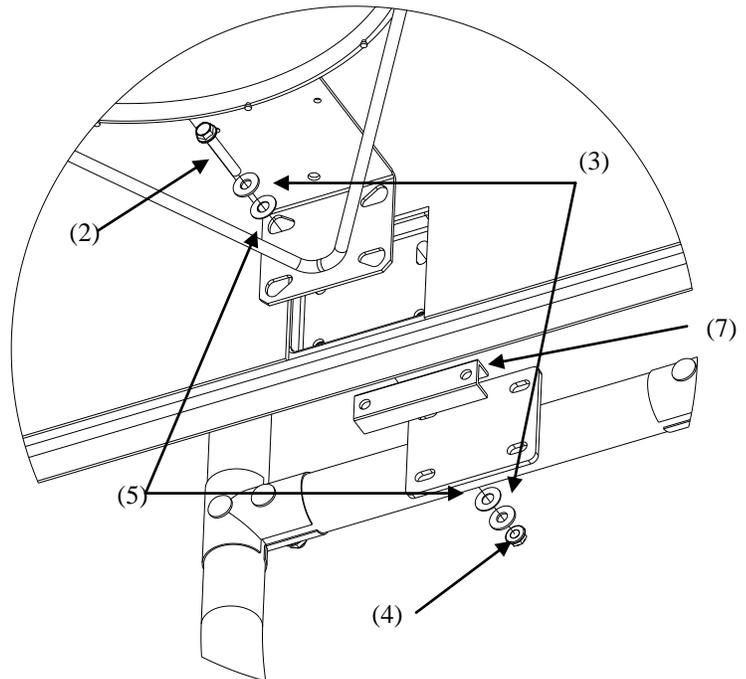

Figure 4
4. Place the insert support (7) between the cross-brace mounting plate (13) and the recess on the back side of the backboard. Be sure to position the insert support in the orientation shown in **Fig. 4** with the holes of the insert support facing the backboard. Position the rim as shown in **Fig. 4** and insert the 5/16" Hex Bolts (2) with Nylon Washers (5) and Flat Washers (3) through the base of the rim. Secure using the Nylon Washers (5), Flat Washers (3) and 5/16" lock nuts (4). Do not fully tighten the hardware at this point. A 1/2" wrench will be needed for this step.